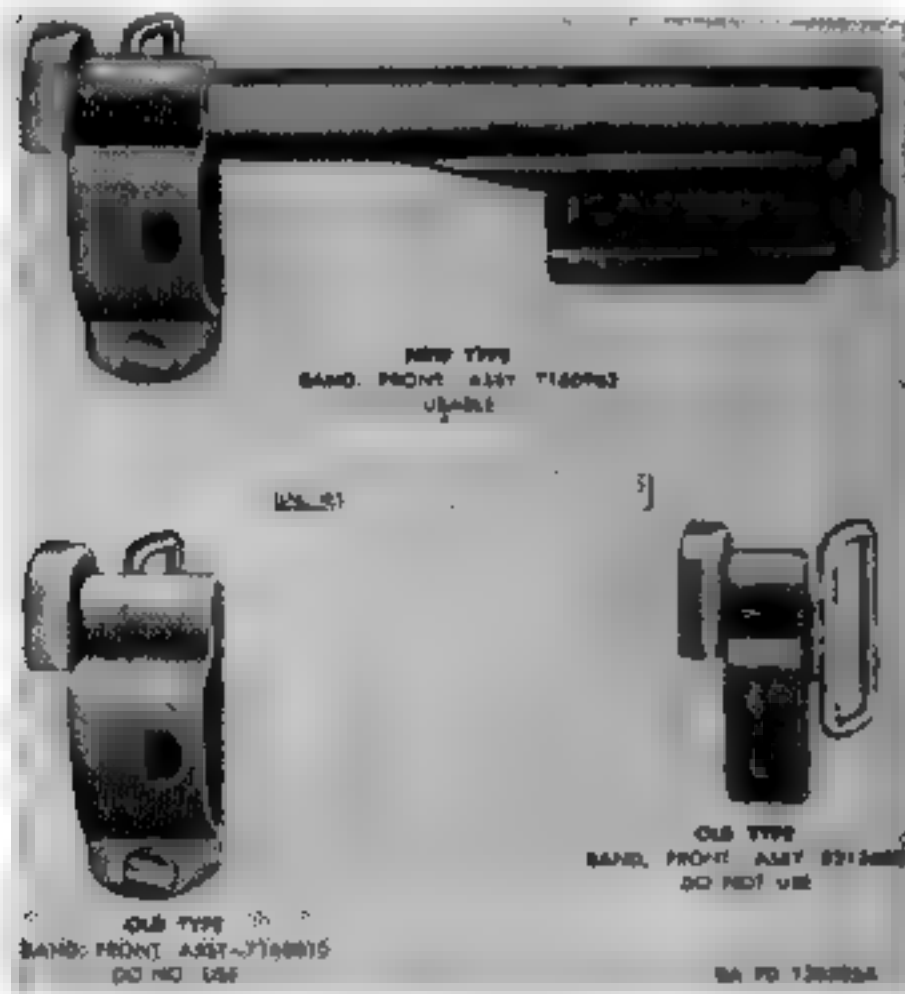

Figure 81. Front band assemblies.
- (j) Check to see that the new type front band assembly (Fig. 81) is used and that the rivets are tight. Visually inspect bayonet stud on front band to assure that it is in good condition. Modification Work Order ORD B28-W5 specifies that the old type front band assemblies must be replaced with the new type (Fig. 81) and describes the pro-